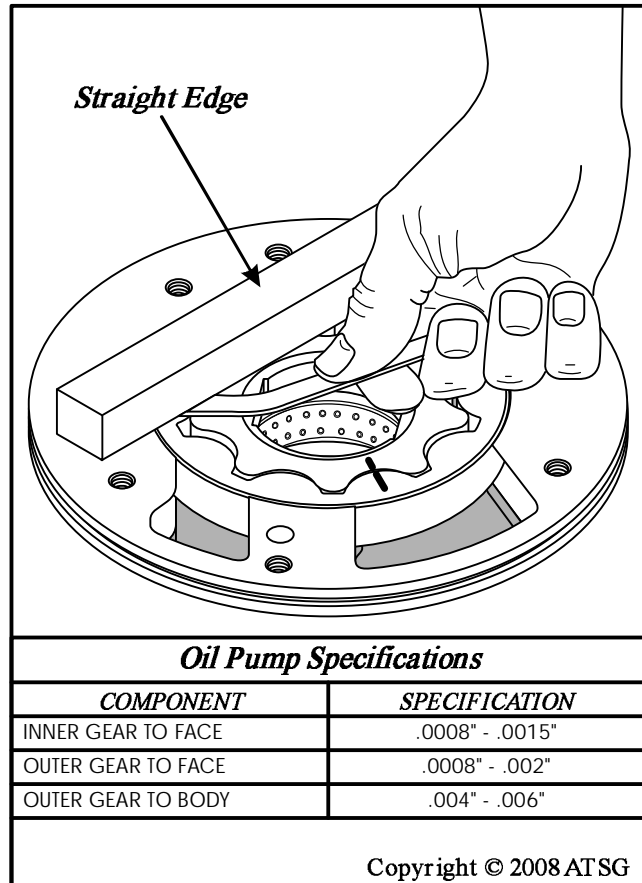

Figure 147
7. Measure the gear to face clearance using feeler gage and straight edge, as shown in Figure 147.
8. Measure the outer gear to body with the feeler gage and use the specifications that are shown in Figure 147 to determine replacement needs.